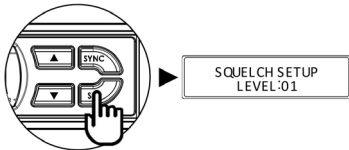

Figure 14
1. Press and release SET button until the SQUELCH SETUP page appears (Fig 14).